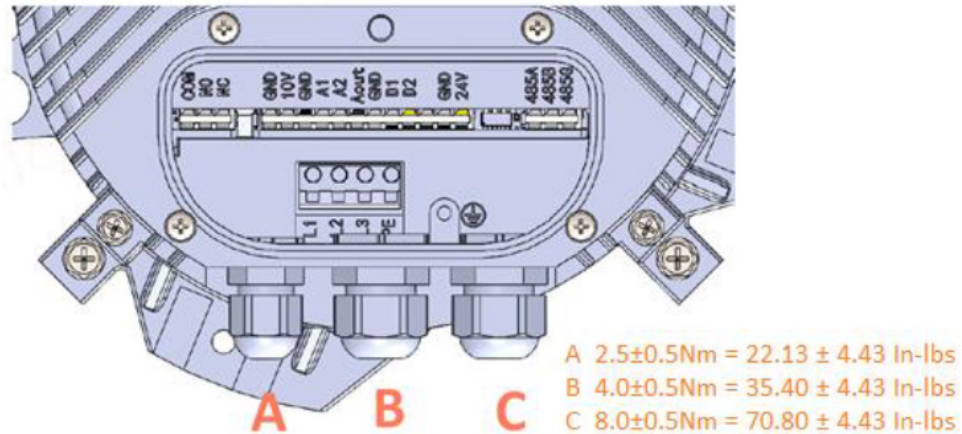

Figure 36. Tightening Torques for Cable Gland Caps
15. Reinstall cable gland caps with the tightening torque shown in **Figure 36**. Make sure all cable glands not in use are fitted with dummy plugs. Ensure that the cable glands are sealed and there is no strain on the connections. Proper installation of cable gland caps is critical to maintain weatherproof rating of the unit. If the above procedure is not followed, damage due to water ingress will occur.